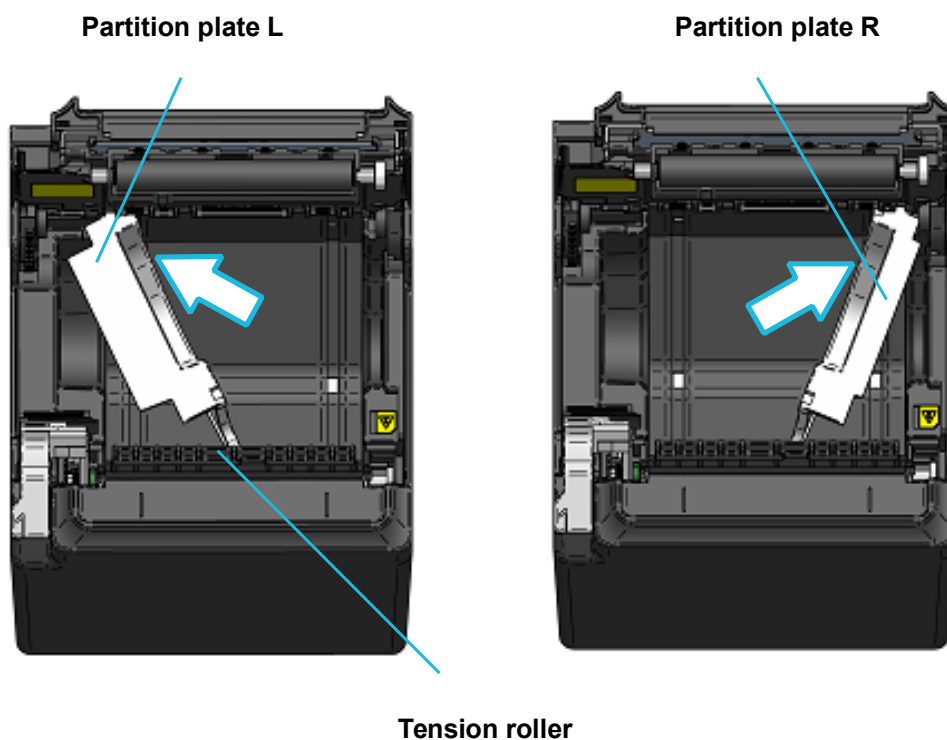

Figure 14-1 Partition Plate Installation (1)
- (1) Ensure that the printer is off.
- (2) Operate the release lever to open the paper cover.
- (3) Put the attached partition plate L and partition plate R into the paper holder with slanting position as shown in Figure 14-1.